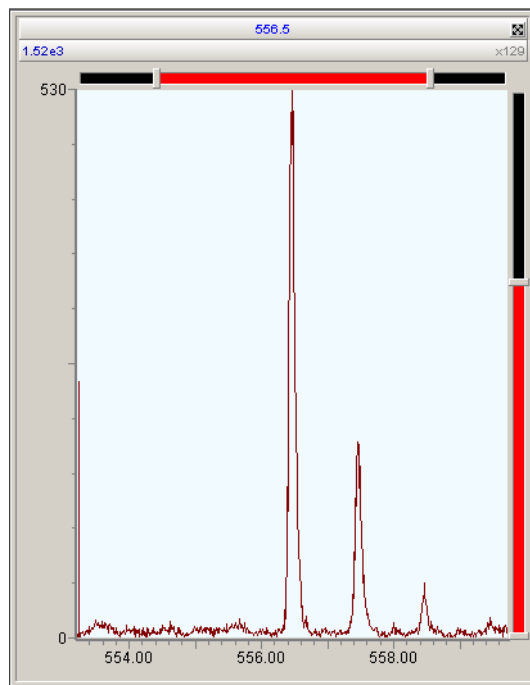

Figure 3-3 Peak Display After Running the Nominal Mass Measurement Wizard
9. Click Next to accept the new setting. The peak display will now be more accurate (Figure 3-3).